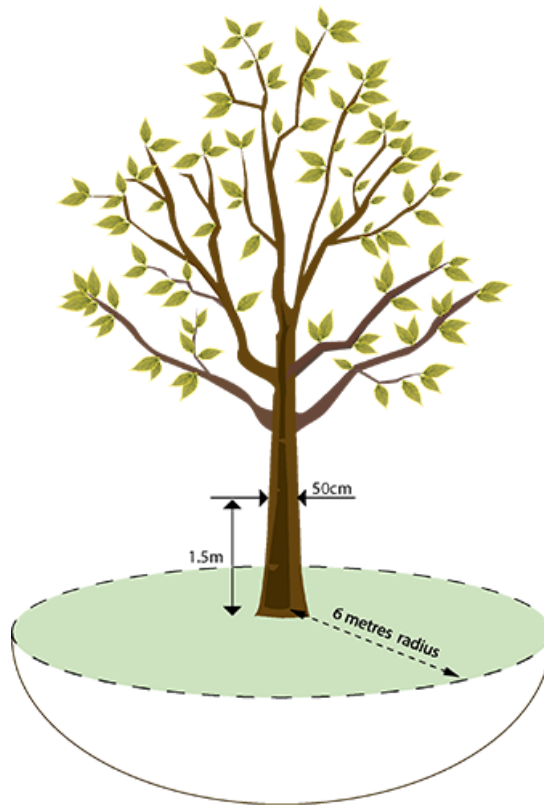

Figure 9a: Root Protection Area (RPA) – shown in green.
- Figure 9a: Tree Root Protection Area (RPA)